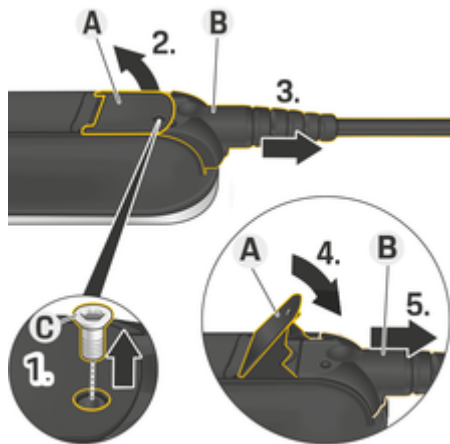

Fig. 8: Disconnecting cables
1. Remove screw **C** (Fig. 8) using a suitable tool.
2. Lift lever **A** (Fig. 8).
3. Pull out plug **B** (Fig. 8) until you first feel resistance.